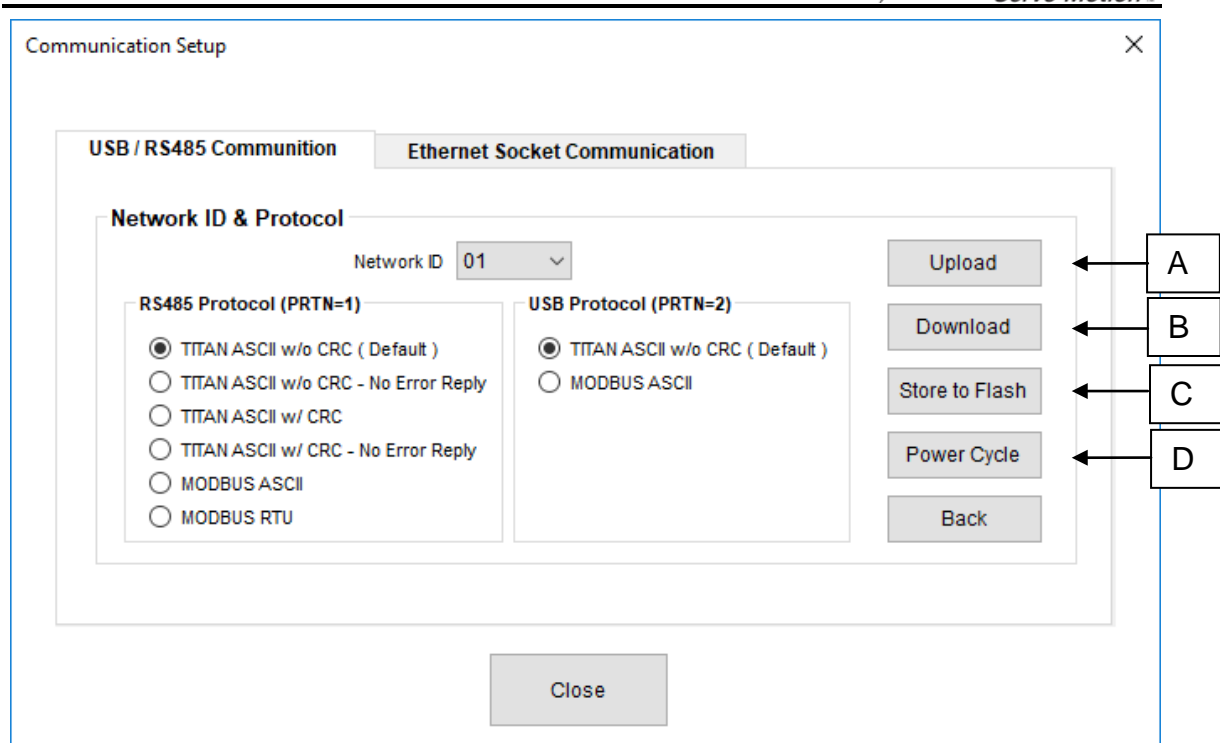

Figure 4.9
4. **Protocol & ID Setup:** TITAN-SVX supports TITAN-ASCII and MODBUS protocols. To see the protocol list shown in figure 4.9, click the Protocol & ID Setup button.